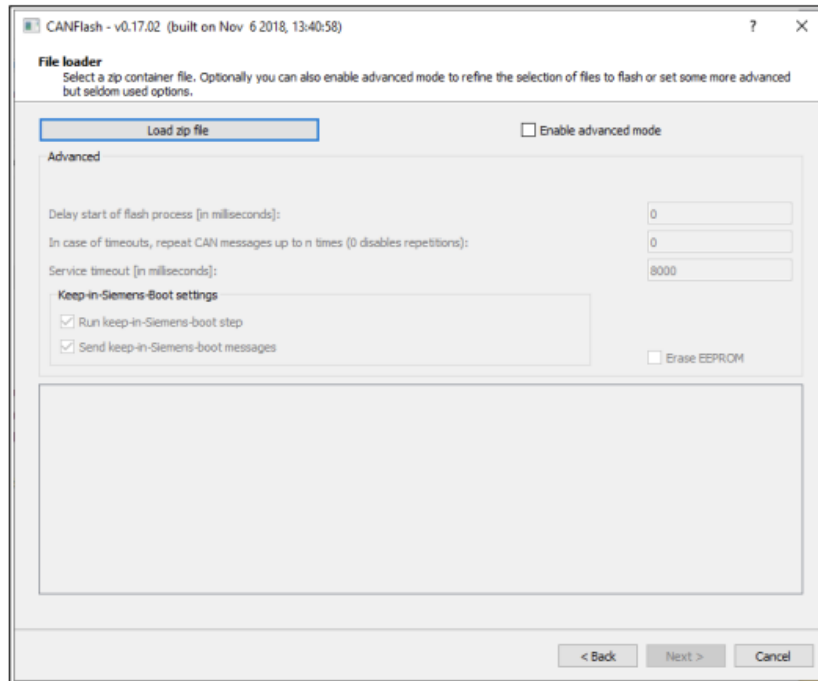

Figure 23: Load zip file in CANFlash
68. Click **Load zip file**. Select **SS100214_Official Release Bootloader 5.11.zip** (see figure 23). Ensure the knob on top of 1144289 is set to inverter ID 1. Click **Next** when complete.